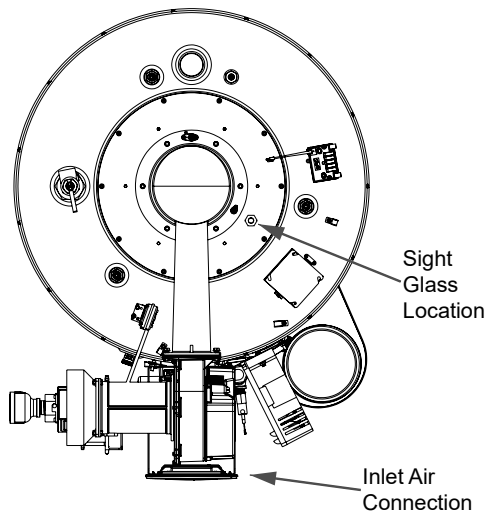

Figure 36. Location of Sight Glass
- Cause no excessive lifting of flame from burner ports. See Figure 36.